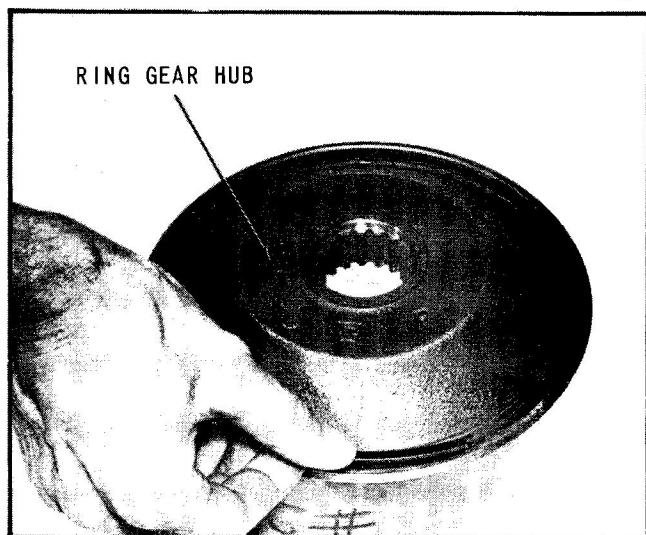

Fig. 60 Install Snap Ring
1. Install reduction unit ring gear hub into ring gear and replace snap ring in ring gear, (Fig. 60).